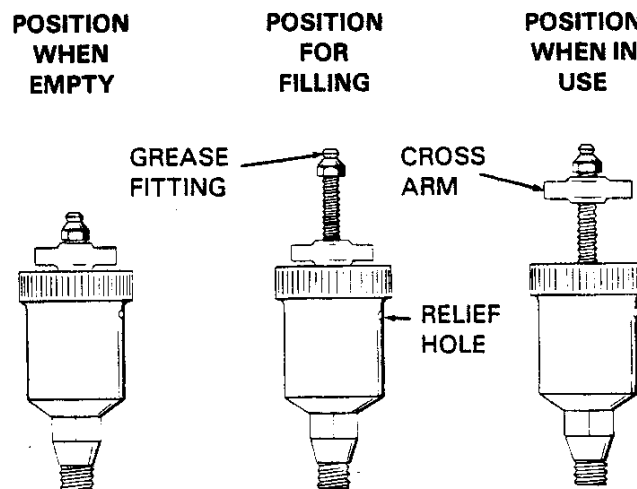

Figure 3. Automatic Lubricating Grease Cup
Before removing the seal assembly, turn the cross arm on the seal grease cup (9) clockwise until it rests against the cover (see figure 3), to prevent the grease in the cup from escaping after the seal is removed.
Before starting the pump, fill the seal grease cup through the grease fitting with a good grade of No. 2 pressure gun grease until grease escapes from the relief hole. Turn the grease cup arm counterclockwise until it is at the top of the stem; this will release the spring to apply grease to the seal (see figure 3).